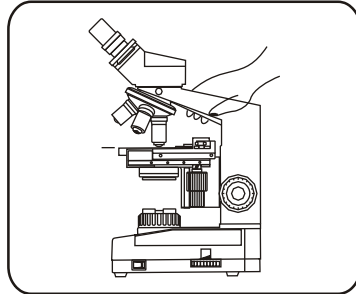

Fig. 4
**3 When Carrying the Microscope (Figs.4 & 5)**
To carry the microscope, hold around the arm with hand as shown in Fig. 4 and carry carefully.